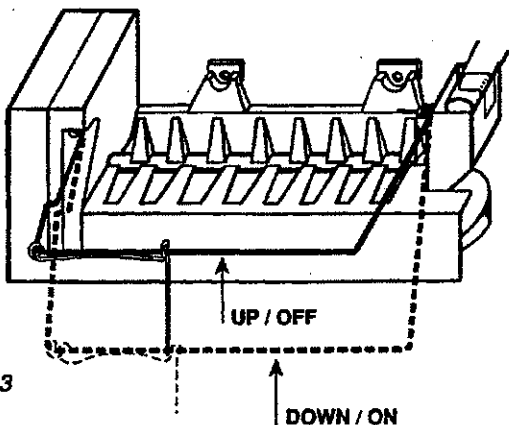

Figure 83
- b. To remove ice storage bin, raise ice maker shut-off arm to OFF position (audible "click" is heard). See Figure 83.
- d. To stop ice production, raise ice maker shut-off arm to OFF position (audible "click" is heard). See Figure 83. Remaining cubes will be dispensed from ice bin until all are used or until bin is emptied.
- e. When leaving for extended periods, raise ice maker shut-off arm to OFF position (audible "click" is heard). See Figure 83. Empty ice storage bin to prevent cubes from freezing around ice auger.